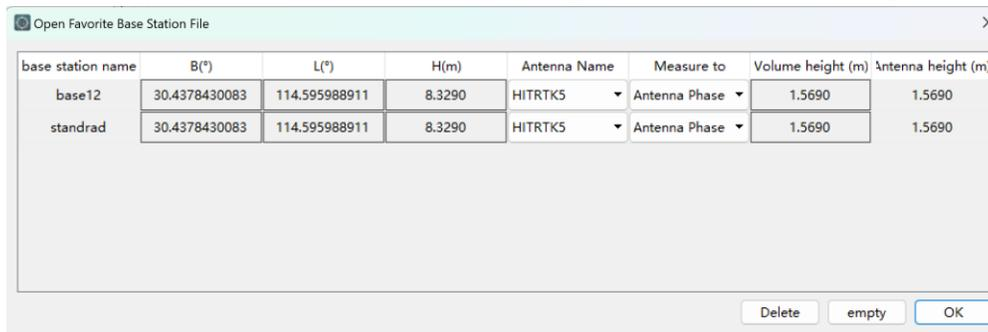

Figure 3-41 Select from Favorites
- (3) Favorites in the existing base station coordinates, click < Choose from Favorites > to enter the Favorites interface to select the base station coordinates need to be replaced.
- (4) Click < OK > to complete the replacement of base station coordinates (Figure 3-41).